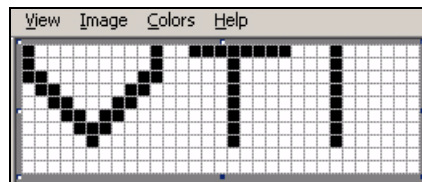

Figure 5-46: Logo Created on Microsoft Paint
- 6 Create the required logo on the page (see Figure 5-46).